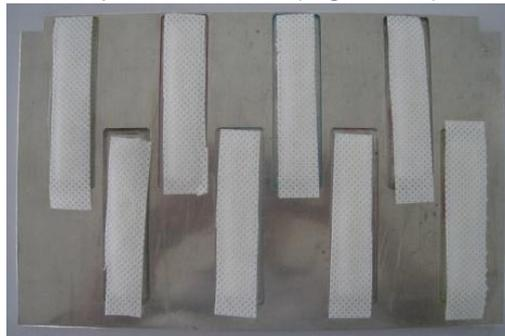

Figure5-3
- 3) Place the PE film on the capping, and then place the non-woven fabric which is moistened by solvent on top of the PE film(Figure 5-3)